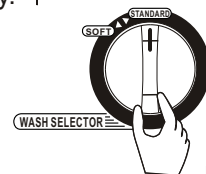

Figure 3
- Embed the drain hose into the groove along the side of the spin tub in the order of (1)~(3), heading for the side of the spin tub. (See to Figure 3).
4. Wash selector (Figure 3)